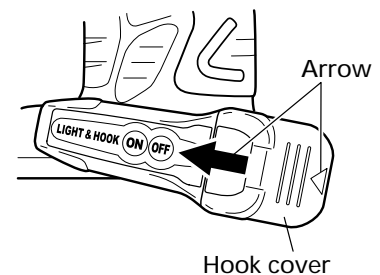

Fig. 12
Remove the hook cover by pushing in the direction of the arrow (Fig. 12).
- (3) Align the indentation in the hook main body with the protuberance of the hook cover, press the hook cover in the direction opposite to that of the arrow shown in Fig. 12 and then tighten the screw.